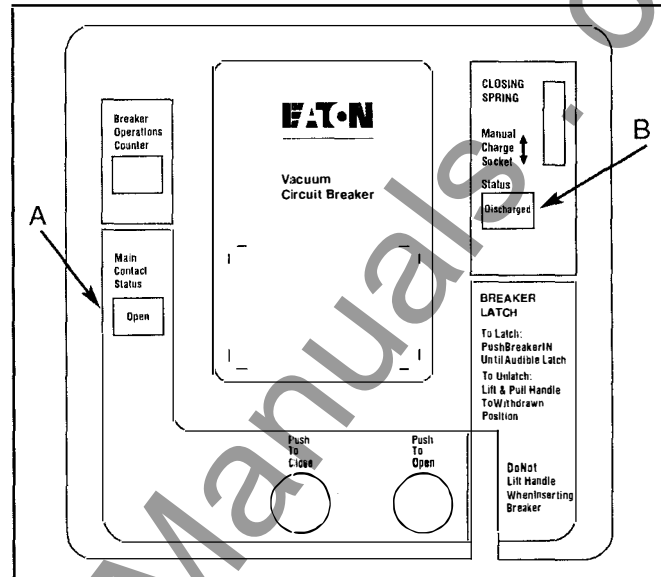

Figure 6-6 Status Indicators ("A" shows the contact status indication and "B" shows the spring indication.)
**Step 1** - On the front cover identify the status indicators. Make sure the closing spring status indicates "DISCHARGED" and the main contact indicator shows "OPEN" (Figure 6-6).